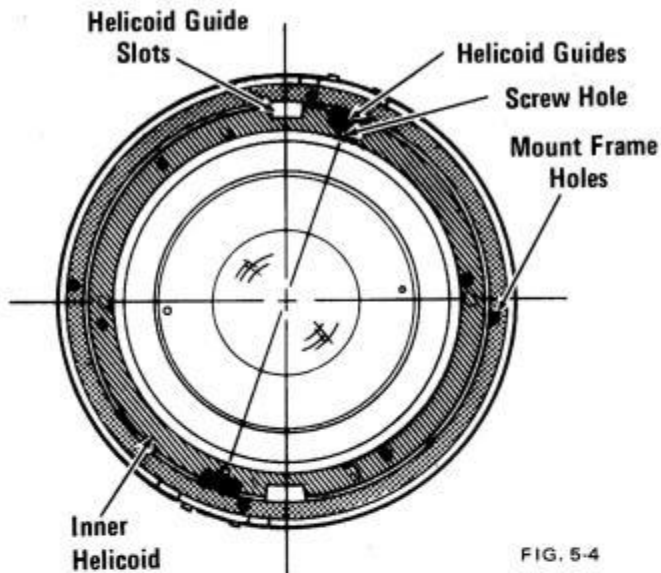

FIG. 5-4
- e) Place the inner helicoid assembly on Tool No. 3650550 as shown in Fig. 5-3. Hold the outer and middle helicoids so that the alignment in 5.2d does not change. Set the middle helicoid down over the tool so that the center of the helicoid guides align with the holes in the helicoid nearest the helicoid guide slots as shown in Fig. 5-4.